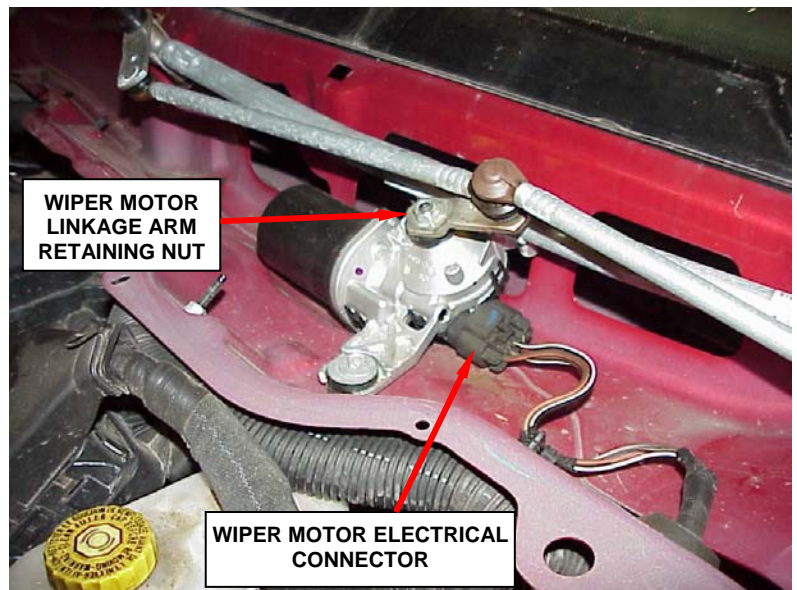

Figure 1 – Wiper Motor Components
6. Disconnect the wiper motor electrical connector (Figure 1).
7. Remove the wiper motor linkage arm retaining nut from the wiper motor shaft (Figure 1)
17. Connect the wiper motor electrical connector (Figure 1).